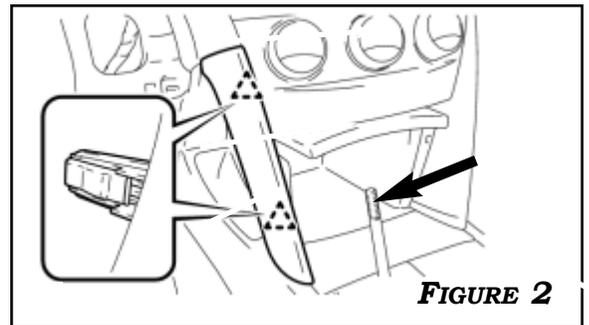

FIGURE 2
1. TURN THE SHIFT LEVER KNOB COUNTERCLOCKWISE AND REMOVE THE SHIFT LEVER KNOB SUB-ASSEMBLY. DISENGAGE THE 4 CLIPS AND REMOVE THE LEFT FINISH PANEL GARNISH FROM THE CENTER CONSOLE. REPEAT THE SAME STEPS TO REMOVE THE RIGHT FINISH PANEL GARNISH. **FIGURE 2**